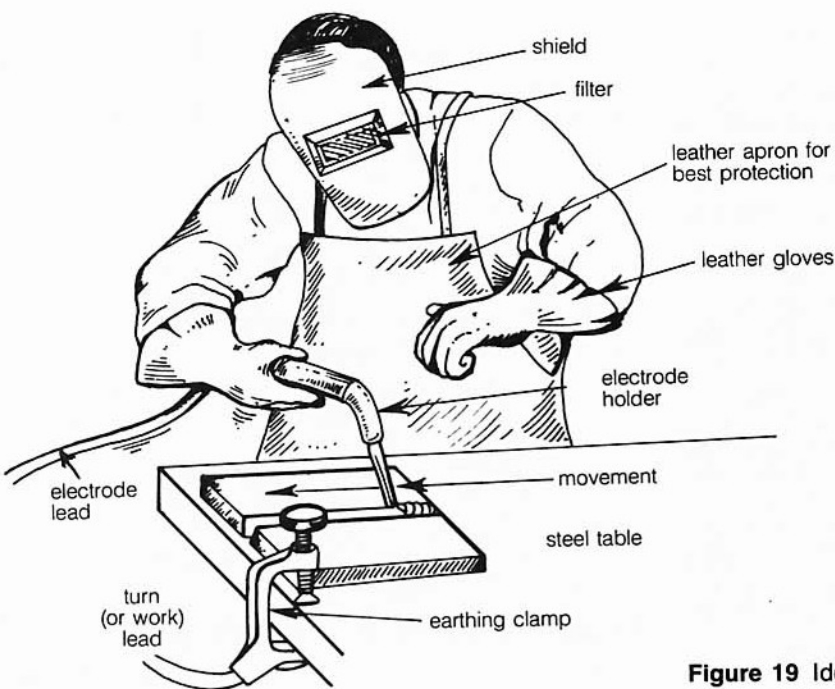

Figure 19 Ideal arrangement for welding at the bench
- 6 Proceed to make the weld by moving the electrode along the joint from left to right, at a rate that will allow the formation of a well-shaped bead. (See Figs 19 to 21.)